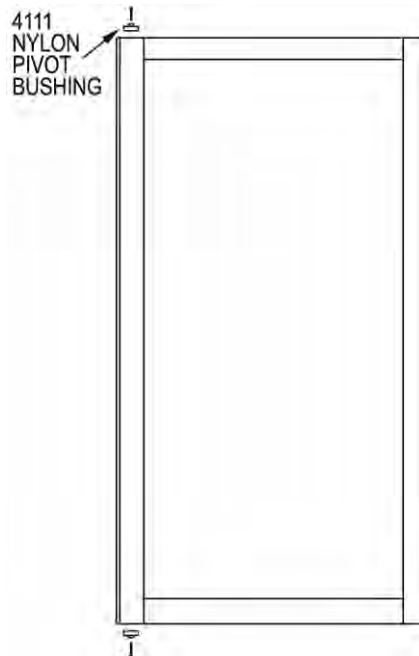

FIGURE 3
Locate 4111 nylon pivot bushing at each end of stile that will become the pivoting side of door (Figure 3) and attach using the included eight, 1"(25) pan head Phillips screws.